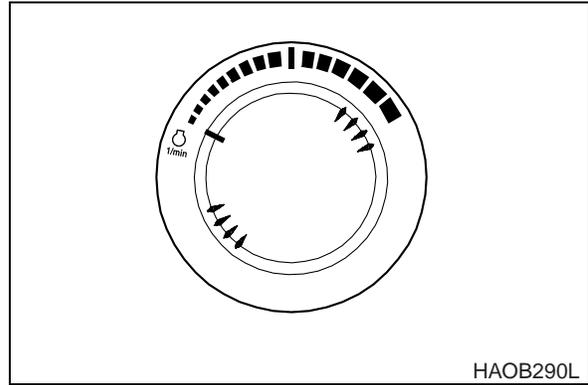

Figure 17
1. Run engine at "LOW IDLE" (no load) for 5 minutes (Figure 17).